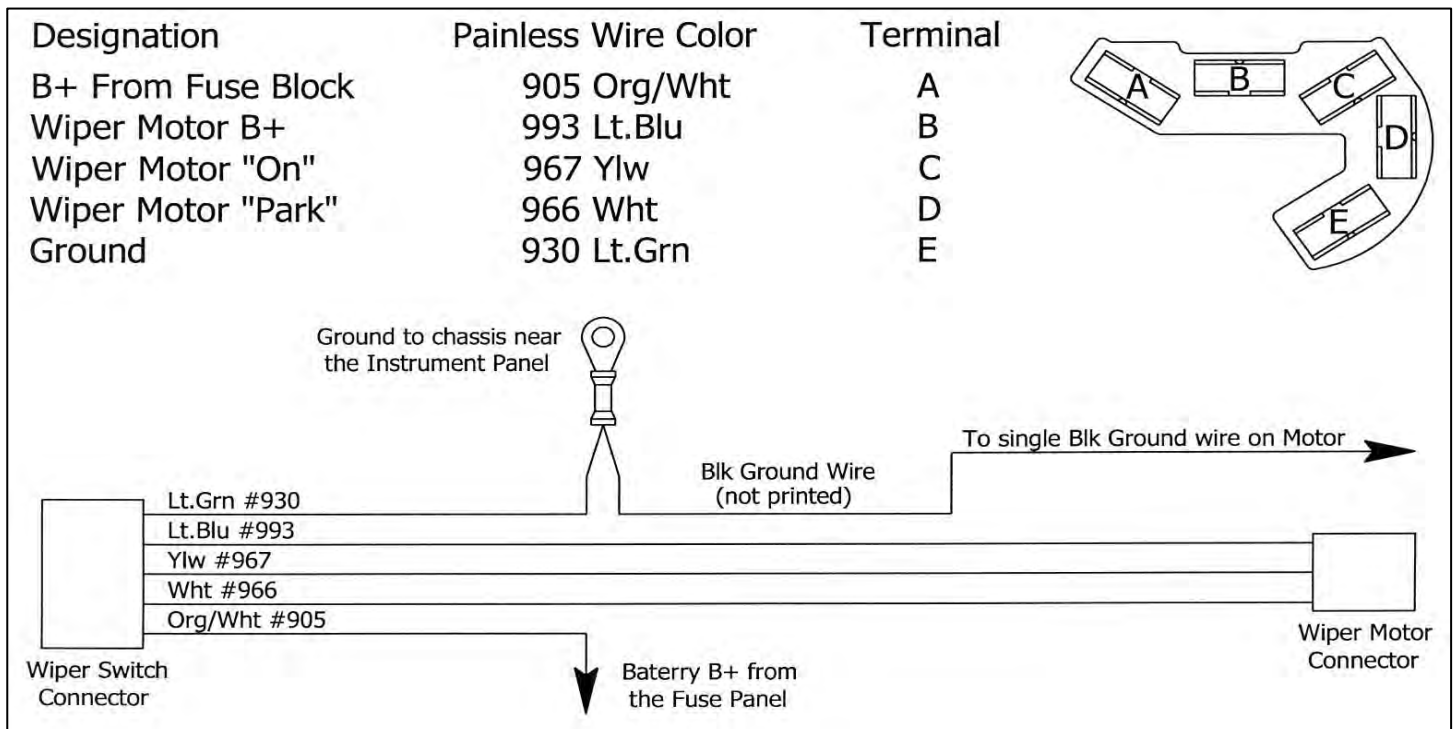
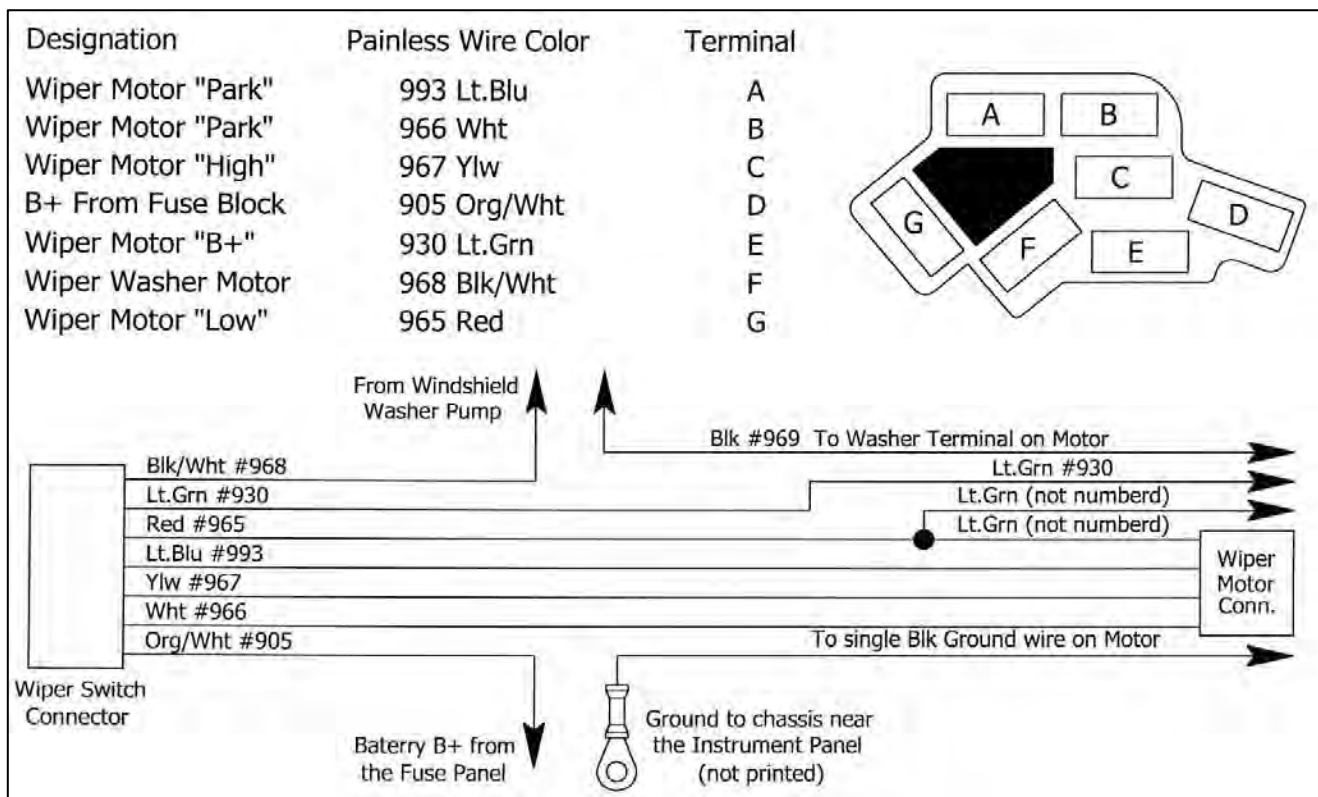

Figure 7-9 Single Speed Wiper Switch Connections (Wire Side View)
Figure 7-10 Two Speed Wiper Switch Connections (Wire Side View)
- 7.11.1** Connect the wires of the WIPER SWITCH SECTION as indicated in **Figure 7-9**, or **Figure 7-10** depending on which wiper system you have. The wires for the Wiper Switch are terminated with the correct terminals to allow you to reuse the original connector housing. Refer back to **Section 7.9.1** for terminal removal procedure.
- 7.11.3** For Two Speed Wiper Systems, connect the wires of the Wiper Motor as indicated in **Figure 7-10** and **Table 8.2**. The opposite ends of Wire numbers, #966 (wht), #993 (lt.blu), #967 (ylw) and #930 (lt.grn) will be connected to the four way connector at the Wiper Motor using the terminals provided. These wires are color coded to match the original harness but due to inconsistent wire coloring check these circuits to be sure.